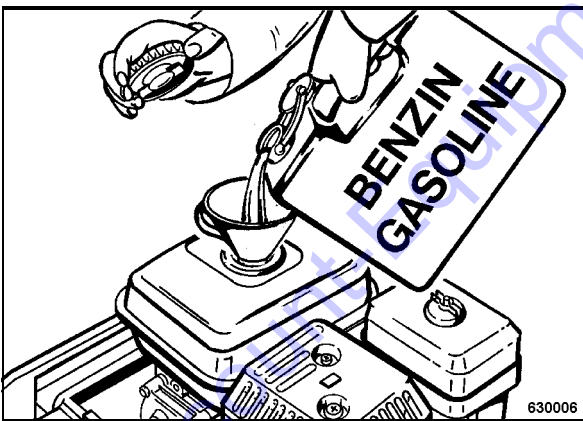

Fig. 28
- Fill in fuel through a funnel with screen (Fig. 28).